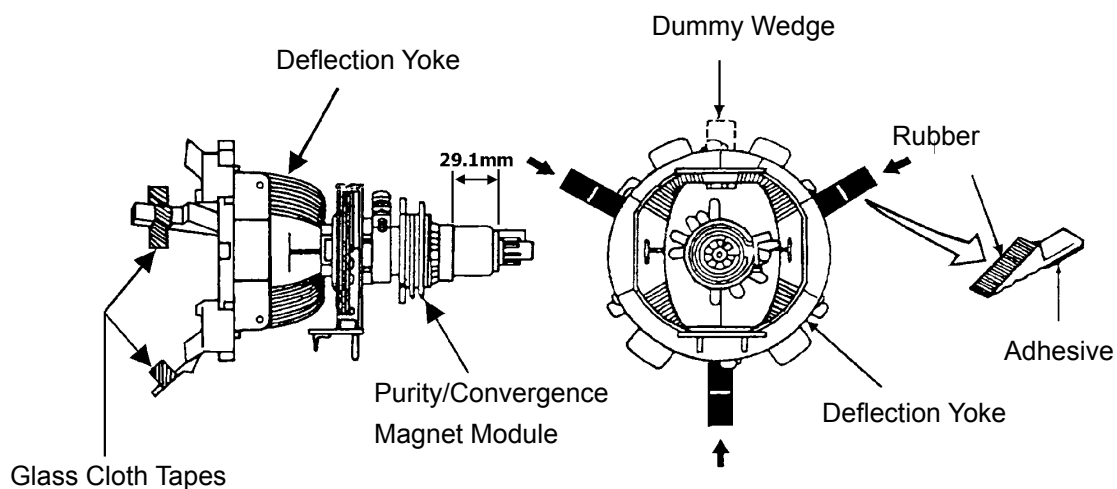

Fig. 1
The purity/convergence magnet assembly and rubber wedges need mechanical positioning. Refer to Fig. 1, 2.
- 2) Temporarily put a wedge as shown in Fig.1.(Do not remove cover paper on adhesive part of the wedge.)
- 9) Stick three adhesive tapes on wedges as shown in Fig. 1.